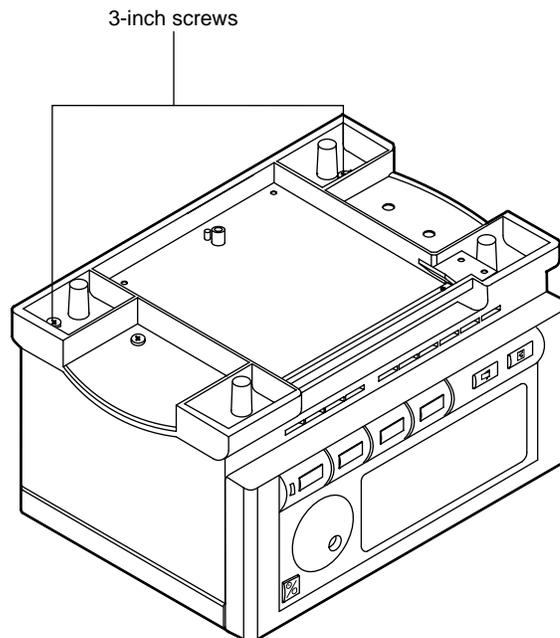

Figure 6-4: Removing Bottom Chassis Screws
2. Turn the N-3200 upside down and completely loosen the two 3-inch Phillips-head screws that secure the bottom of the unit to the top cover, as illustrated in Figure 6-4.
15. Replace the two bottom chassis screws (Figure 6-4).